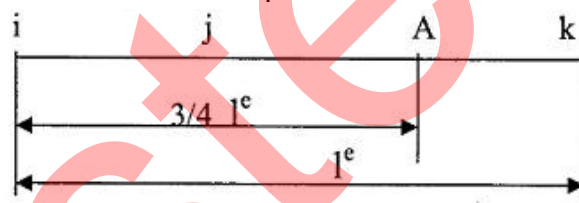

Fig.1
- 3 How do you calculate capacitance [C] for unsteady state heat transfer problem? (2)
- 4 Derive material matrix for 2-D plane stress condition. (3)
- 5 Derive thermal load matrix for quadratic element. (2)
- 6 Write different type of boundary conditions associated with beam element. (2)
- 7 Obtain the strain displacement matrix [B] for one dimensional quadratic element at a point A which is at a distance of $\frac{3}{4}l^e$ from i^{th} node as shown in Fig. 1. (3)